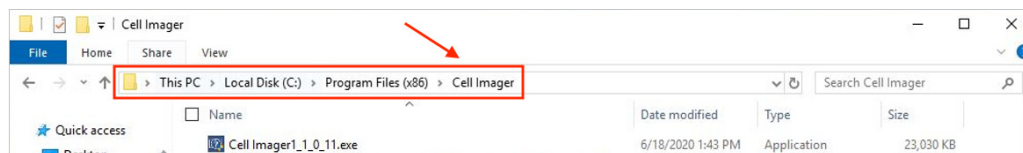

Figure 24. Go to: C:\Program Files (x86)\Seahorse Bioscience\Cell Imaging.
- 11 Go to: C:\Program Files (x86)\Seahorse Bioscience\Cell Imaging (Figure 24).